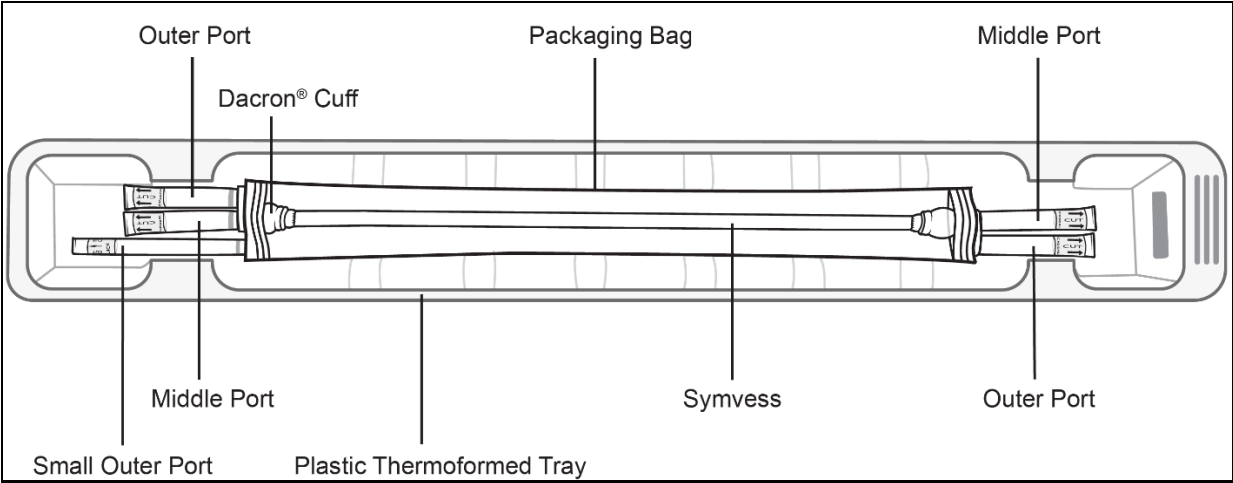

Figure 3c: SYMVESS with each component
Step 3: Two operators (one sterile operator and one non-sterile operator) are required to remove the sterile packaging bag containing SYMVESS from the plastic tray. Inspect the plastic tray to check for damage which can lead to loss in sterility of the SYMVESS. Do not open the tray for further use if the product is expired or has visible damage. If packaging is intact and within date of acceptable use, the non-sterile operator pulls back the Tyvek® lid by the corner tab to open the plastic tray containing the sterile packaging bag (Figure 3a and 3b). Take careful steps to avoid touching the sterile contents inside the tray (Figure 3c).
Figure 3c displays the components of SYMVESS within the plastic tray.